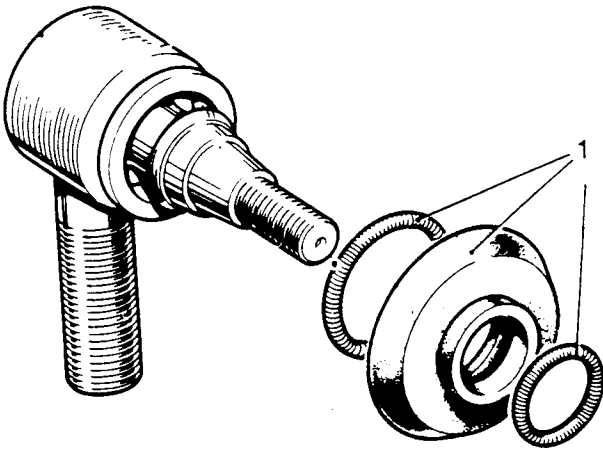

Fig L5.18
- (2) Refer to Fig L5.18. Remove the rubber cover and spring rings (1).
- (3) Thoroughly clean all parts.